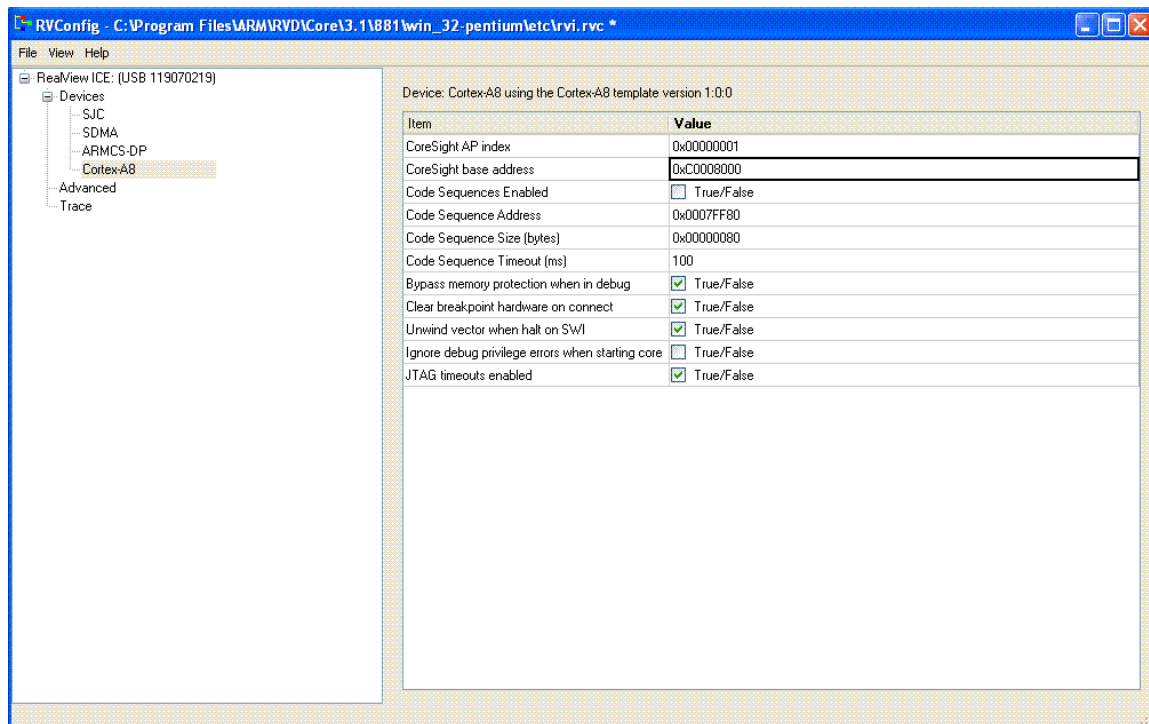

Figure 3. CoreSight base address modification
- i. Right click on Cortex-A8 and select Configuration. Replace the CoreSight base address with 0xC0008000 (see Figure 3)